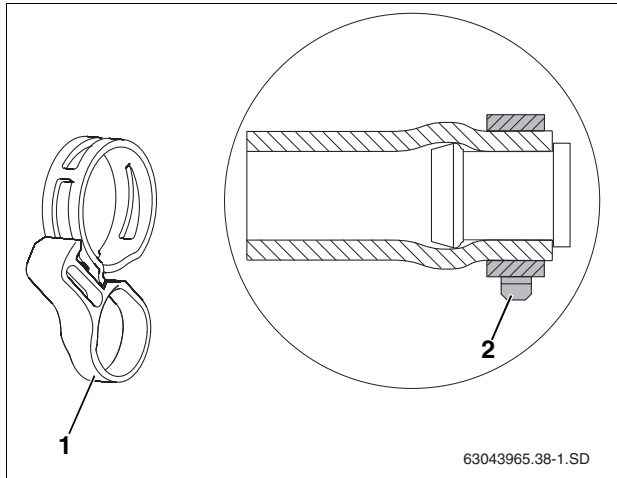

Fig. 33 Hose clamp with locking ring, also shown installed to the pre-assembled dummy plug
- ▶ The hose clamp **MUST** be positioned correctly **BEFORE** the locking ring (Fig. 33, [1]) is removed (Fig. 33, [2]). Subsequent loosening using pliers can impair resilience.